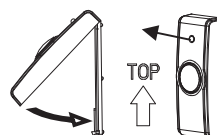

Fig 4
When the pushbutton is pressed, the LED light (B) in Fig 4, will illuminate to reassure the visitor that the pushbutton is working. The light will flash 5 times when the battery needs replacing.